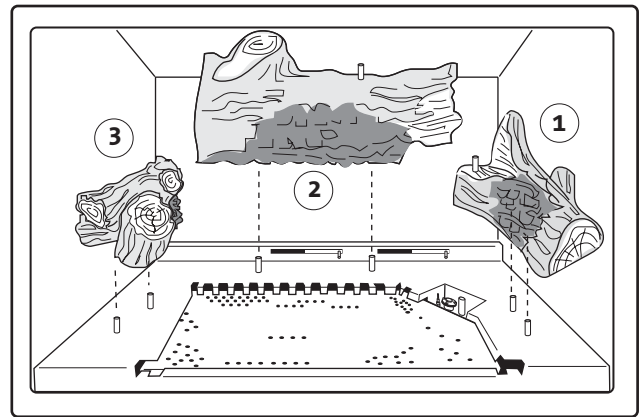
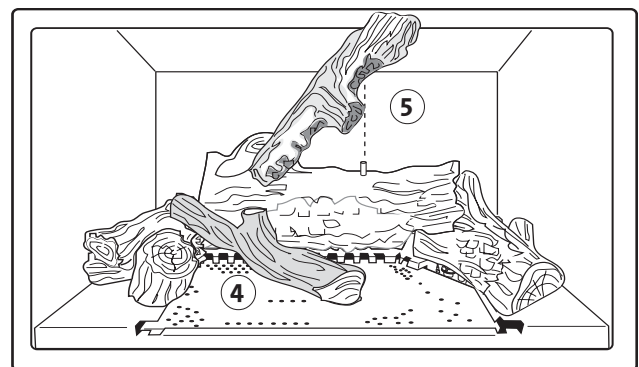

Figure 41. Install Right Log, Rear Log and Left Log in that order.
Figure 42. Install Front and Cross-over logs as shown.
1. Seat Right Log (1) on the pin on the right side of the Burner Skirt. fig. 41.
2. Set Rear Log (2) on the pins at the rear of the Burner Skirt. This log should overlap the back of the Right Log.
3. Set the Left Log (3) on the pins at the left side of the Burner Skirt.
4. Set the end of Front Log (4) into the pocket at the rear of Left Log (3). Engage the other end with the pin in the middle of the Burner Plate. Fig. 42.
5. Engage the upper end of the Cross-over Log (5) with the pin in the Rear Log. Fig. 42. Set the Cross-over Log across the top of the lower end of the Front Log (4) as illustrated.